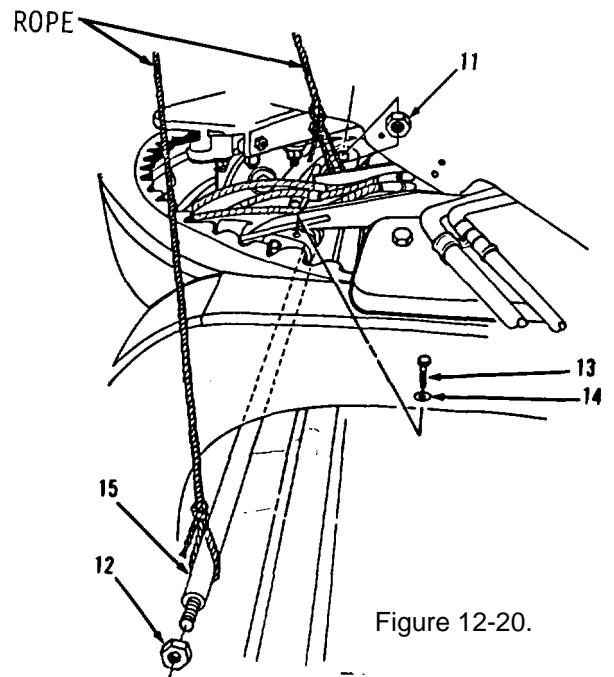

Figure 12-20.
2. Attach hoist and sling to bracket (9).
3. Remove cotter pin (1), nut (2), washer (3), nuts (4 and 5), washers (6 and 7), bolt (8) and bracket (9). Discard cotter pin (1).
4. Remove two washers (10).
6. Remove nuts (11 and 12, Figure 12-20).
7. Remove two bolts (13) and washers (14).
8. Remove bar (15) and attached rope.
9. Remove rope from bar (15).